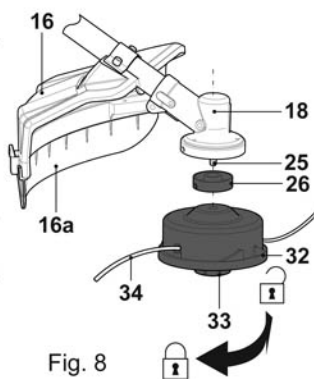

Fig. 8
- > Insert and screw the nylock nut as indicated (Fig. 8).